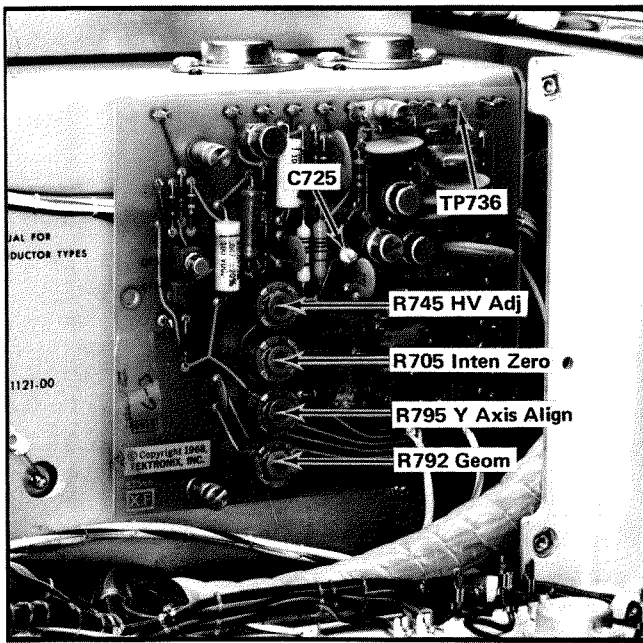

Fig. 5-3. Location of test point TP736 on the High Voltage/Z Axis Amp board, adjustments and C725.
f. Connect the DC voltmeter from TP736 of the Z Axis Amp circuit board (see Fig. 5-3) to chassis ground.
h. ADJUST—Z Axis DC Level Adj. (R705; see Fig. 5-3) set to +5 volts.
b. Connect the DC voltmeter from TP736 of the Z Axis amplifier circuit board (see Fig. 5-3) to chassis ground.
e. ADJUST—HV Adj. (R745) on the High Voltage/Z Axis Amp board (see Fig. 5-3) for a meter reading of -2960 volts.
f. ADJUST—Y Axis Align (R795) on the Z Axis Amp circuit board (see Fig. 5-3) so the displayed trace is precisely parallel with the center vertical graticule line.
f. ADJUST—Geom adjustment R792 (see Fig. 5-3). See Fig. 5-5A for minimum curvature of the markers displayed vertically and horizontally.
e. Connect the DC voltmeter to the Type 7504 Z Axis Amplifier output (TP736). See Fig. 5-3.